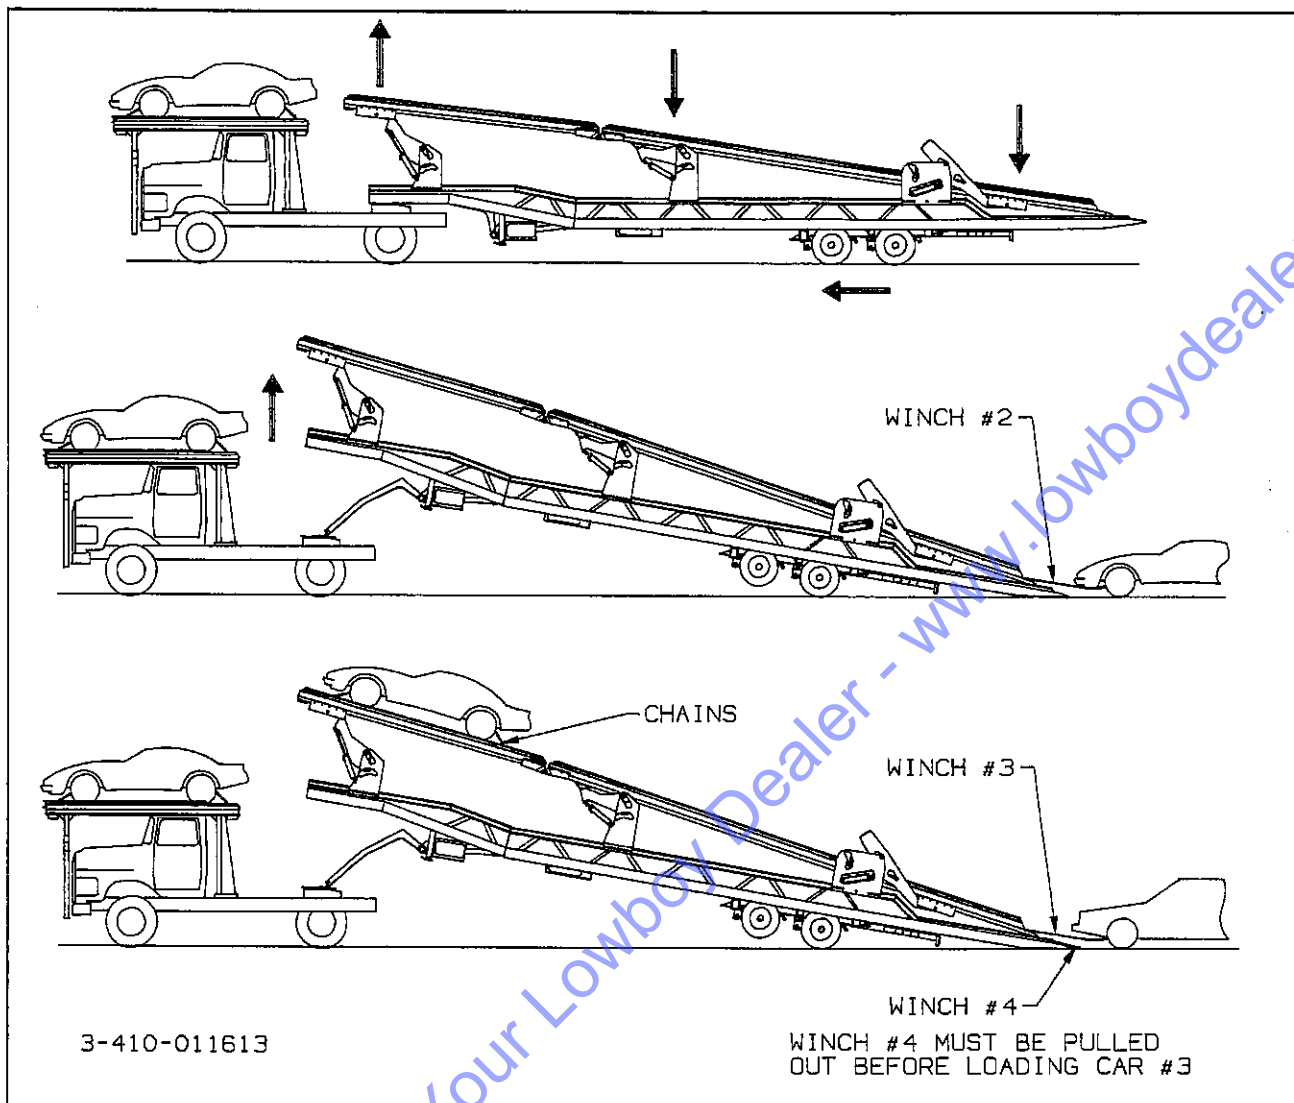

Figure 3-9 Loading the Upper Deck
- Unlock and lower the middle arm as far down as it will go. (See Figure 3-9.)